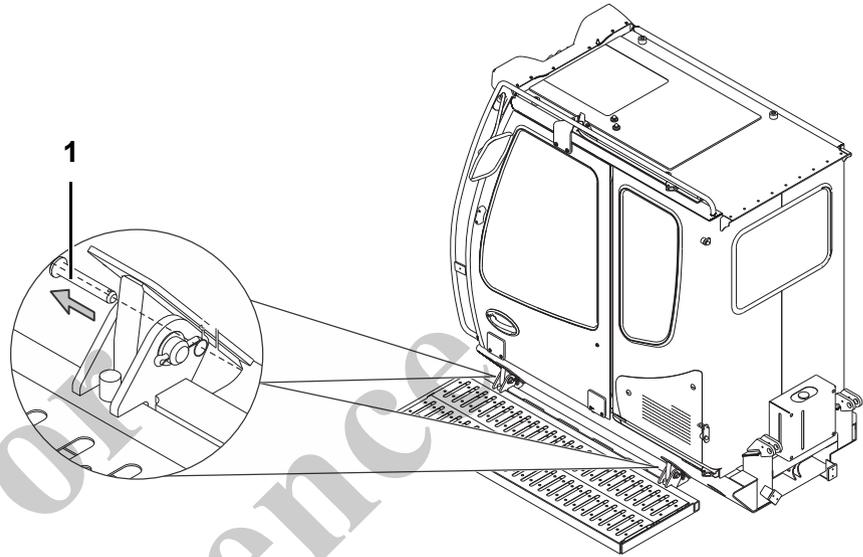

Fig. 98 Stowing walkways – removing pins
- 1 Unlock and remove the rear pins (1) in Fig. 98.